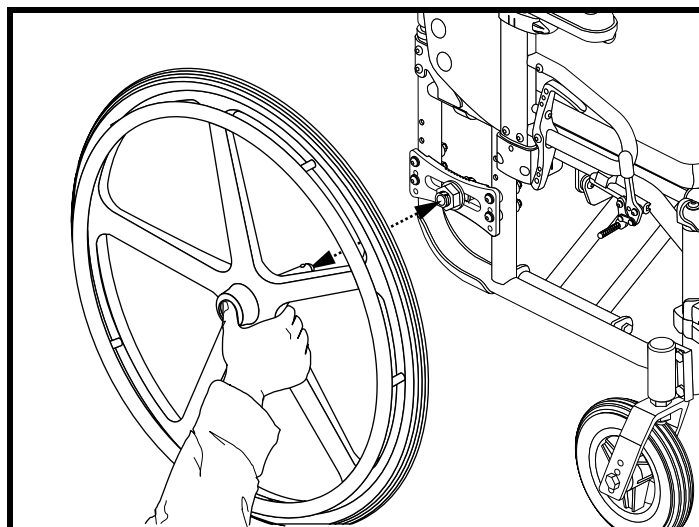

Figure 15. Drive Wheel Quick Release
1. Remove the drive wheels. See figure 15.
1. Press the quick-release button and pull the drive wheel off. See figure 15.
1. Remove the drive wheel. **See figure 15.**